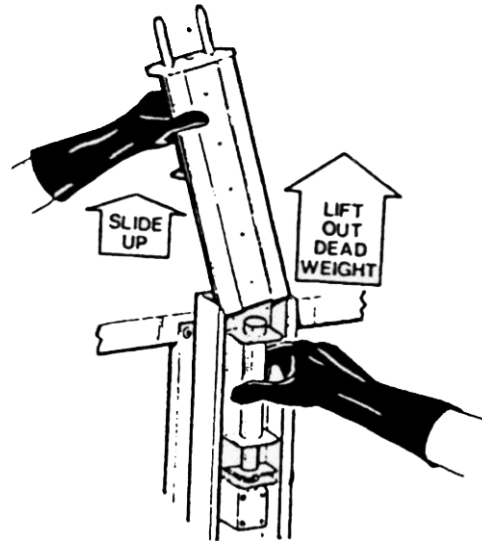

FIGURE 28
15. **CLEAN VENT COMPONENTS.** Remove dead weight and wipe out vent block (FIG. 28). Clean dead weight at sink, towel dry and place back in vent assembly.